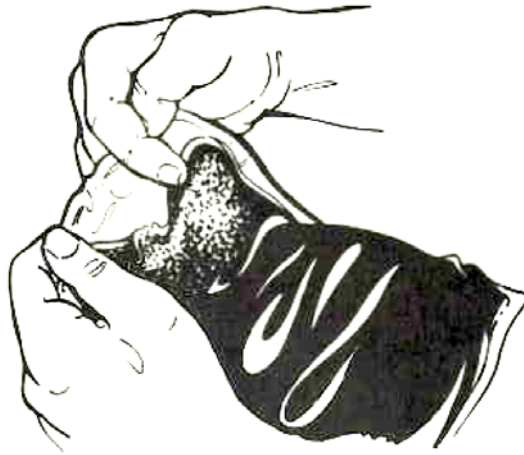

Figure 8
3. Alternately squeeze ends of pouch forcing compound rapidly back and forth, then strip compound from corners of pouch between fingers. Mix until color is completely uniform – 30 to 40 VIGOROUS SQUEEZES. **DO NOT EXCEED 1 MINUTE.** (Figure 8)